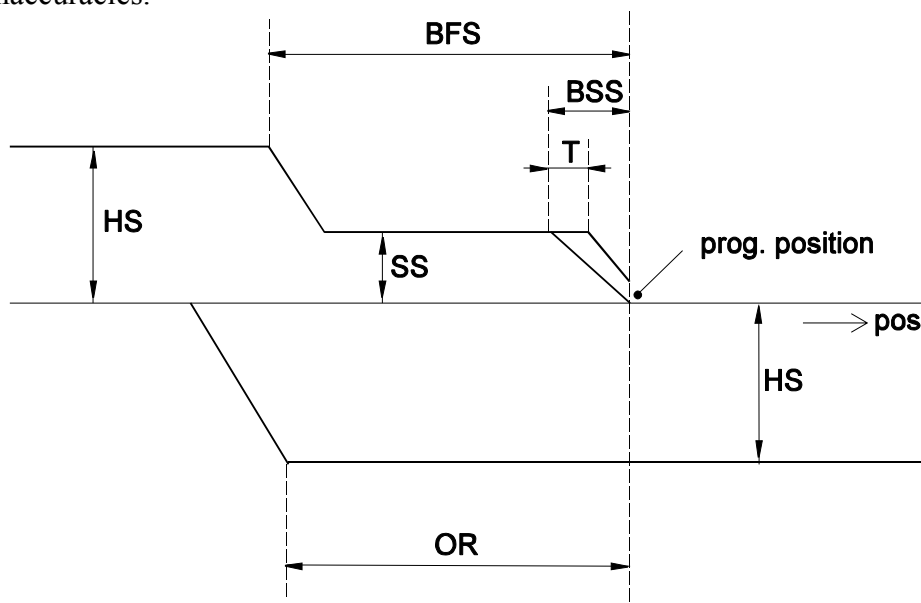

Fig. 7.2
Fig. 7.2 explains the meaning of the parameters BFS, BSS, T and OR. The indications HS and SS represent the high and low speed of the backgauge. The Breakpoint Slow Speed (BSS) and the stop time (T) serve to position the backgauge. When the backgauge approaches the programmed position at slow speed and comes within the range of the BSS, the controller will switch off and the backgauge will come to a stop. If the resulting position is not correct, try altering the BSS.